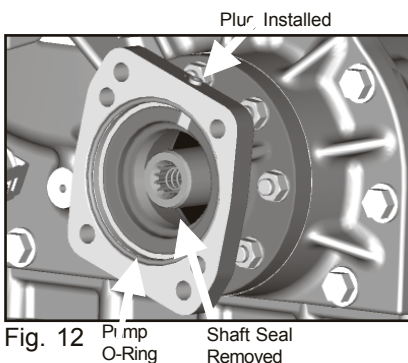

Fig. 12
- a. Wet spline installation will be the same as above (step a thru g of the pump mount installation (item 4 page 12))
- b. The P.T.O. housing will not have an oil seal and there will be a "plug" (1/8" NPT) in the housing (**Fig. 12**).
- c. Install O-Ring that is supplied with kit in flange as shown (**Fig 12**).